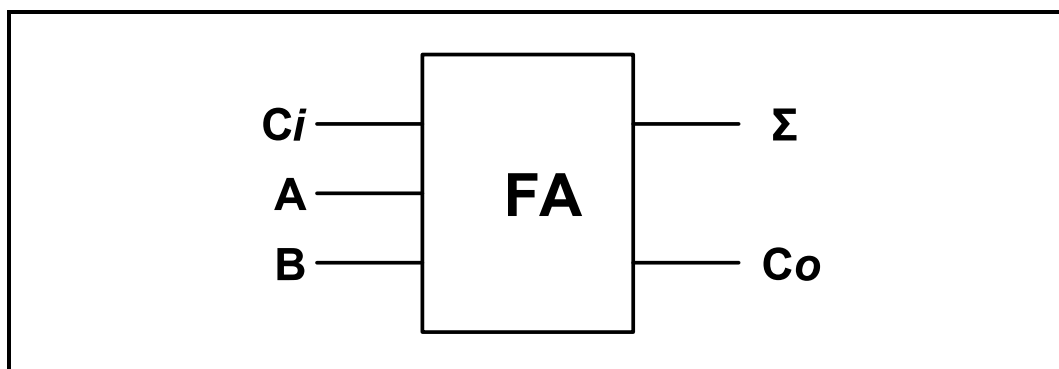

FIGURE 5.3: BLOCK DIAGRAM OF A FULL ADDER
- 5.3 Refer to FIGURE 5.3 below, which is a block diagram of a full adder, and complete the logic circuit of a full adder using AND gates, exclusive OR gates and an OR gate on the ANSWER SHEET for QUESTION 5.3